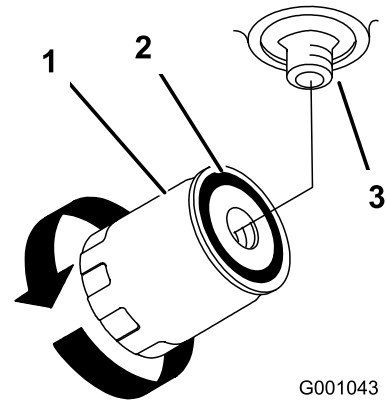

Figure 80
4. Apply a thin coat hydraulic fluid to the rubber gasket on the replacement filter (Figure 80).
7. Fill the hydraulic tank with hydraulic fluid until the fluid overflows the filter and then turn the oil filter clockwise until the rubber gasket contacts the filter adapter, then tighten the filter an additional 1/2 turn (Figure 80).